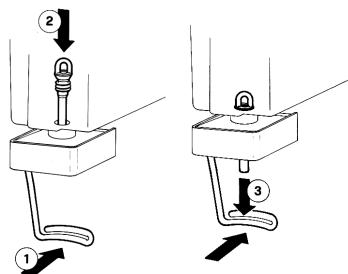

figure 5
- 2 - **Pinch tube faucet:** push the dispensing handle (1) and insert the pinch tube into its vertical seat in the bowl bottom (2). Lightly pull the pinch tube end downwards til it's well arranged (3) (see figure 5).